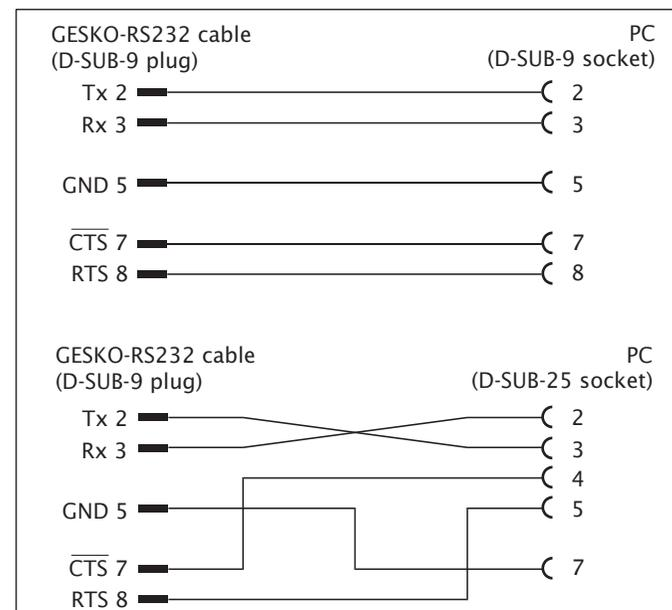

Fig. 4-1: Extension cable for connection to the PC
- Insert the Western (RJ-45) plug of the cable supplied into the unit's RS 232 C interface and put the cable's socket in the computer's COM port. If you need an extension cable, this will have to be assigned as shown in Fig. 4-1.